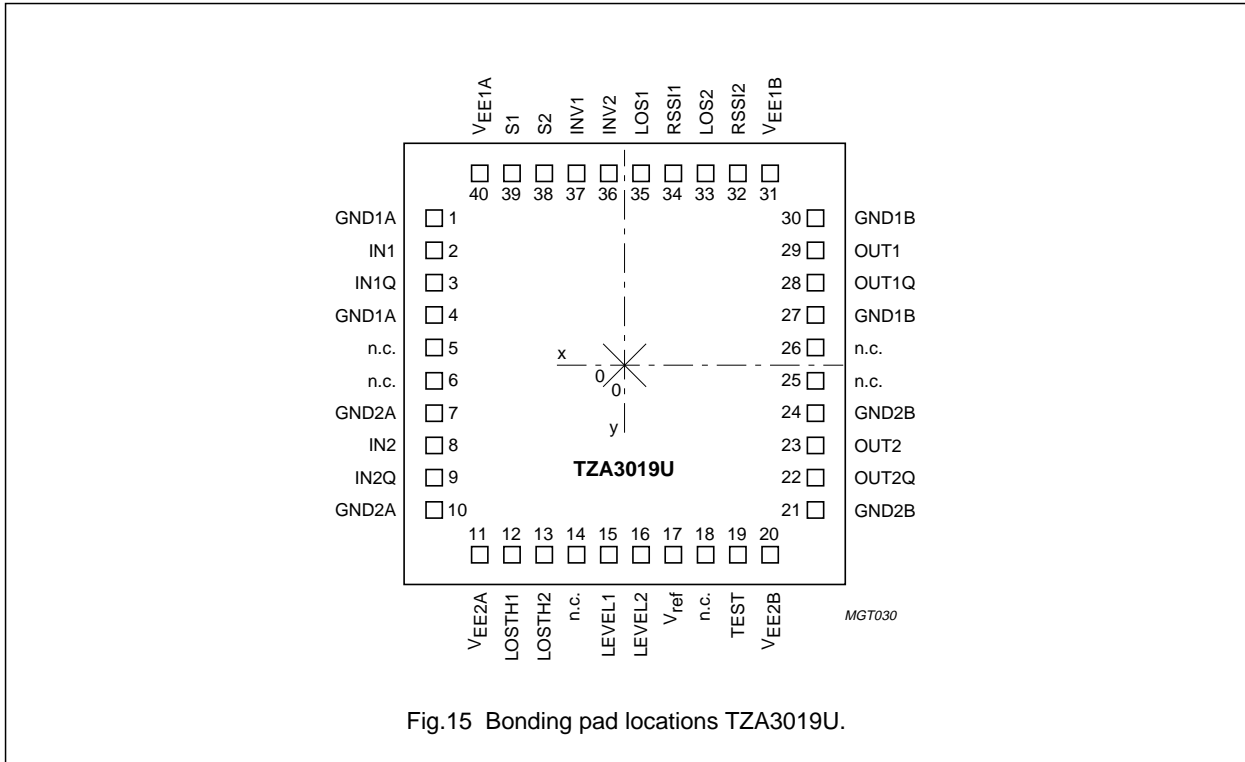

Fig.15 Bonding pad locations TZA3019U.
- All x and y coordinates represent the position of the centre of the pad in μm with respect to the centre of the die (see Fig.15)